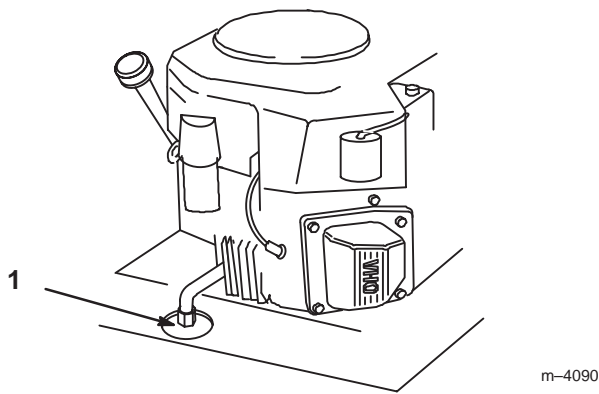

Figure 26
3. Place a pan below the oil drain. Remove the oil drain cap (Fig. 26).